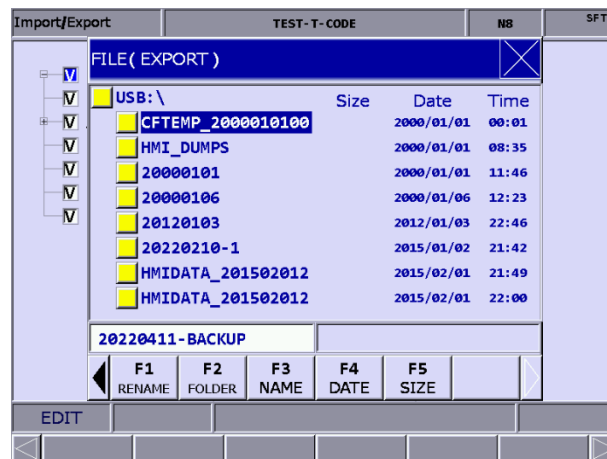

Figure 9.9.2
- (5) Press **EXPORT** and the file manage (FILE) window appears as shown in Figure 9.9.2. Select the directory to save the exported files, or directly enter the folder name and press **ENTER** to save the exported files to the specified folder.
- (6) Then, the screen displays a progress bar showing the exporting process until the exporting is finished.
- (7) If you want to save the exported file to a new folder, name the folder, then press **FOLDER** to save the exported file in the folder, as shown in Figure 9.9.2.